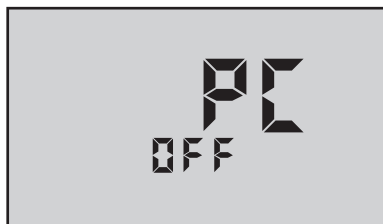

Figure 30
5. Press and HOLD  key until the menu “**PC OFF**” appears, (see Figure 30).